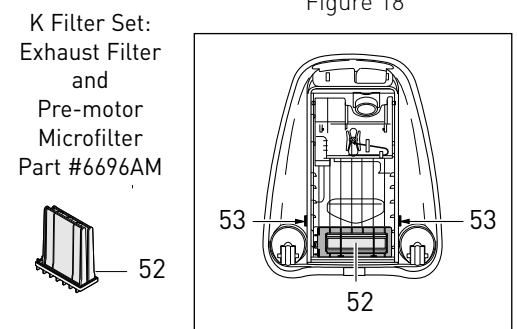

Figure 19
3. Pre-motor microfilter not properly inserted.	3. Remove the filter bag cover (26) and make sure the pre-motor microfilter housing is seated firmly in place (see pg. 12, figure 19).